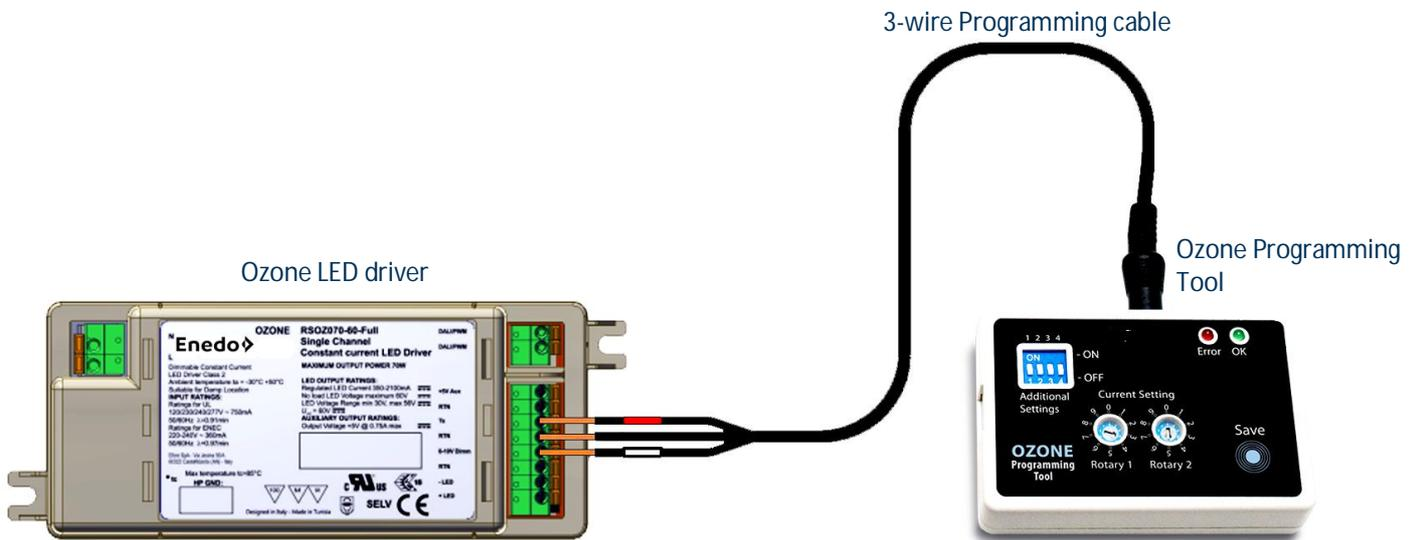

Figure 2
The Ozone programming tool is easily connectable with Ozone LED driver by the 3-wire cable (Figure 2). The cable is included in the code **RSOZ070-PTOOL**
3. Connect the 3-wire cable of the external programming tool to the Ozone output connector, as shown in **Figure 2** and **Figure 3**.